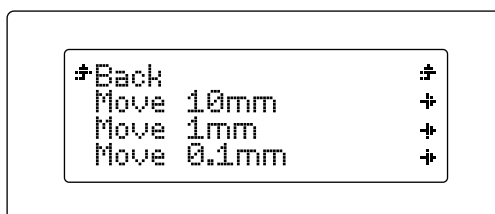

Figure 3.6 Jog option
- **Jog:** select this option to independently move any of the printer's motors (fig. 3.6). There are three sub-options: